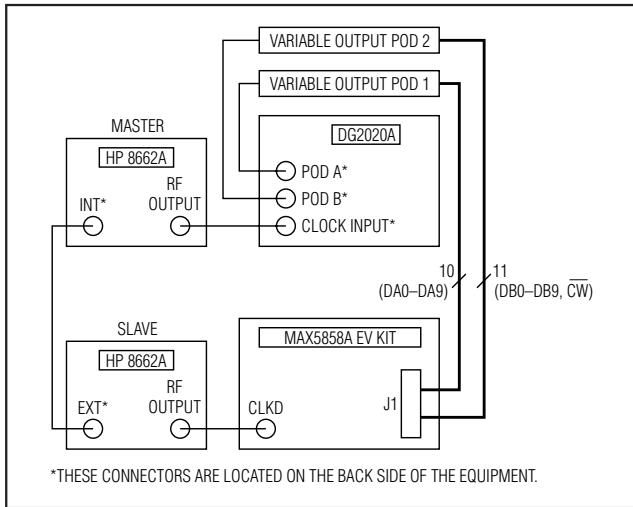

Figure 1. MAX5858A EV Kit Quick Start Setup for PLL Disabled Mode
The MAX5858A EV kit is a fully assembled and tested surface-mount board. Follow the steps below for board operation. **Do not turn on power supplies or enable signal generators until all connections are completed (Figure 1):**
- Connect the RF OUTPUT of the master HP 8662A (data clock) to the clock input on the back side of the data generator (Sony/Tektronix DG2020A). (See Figure 1 for the equipment setup connections.)